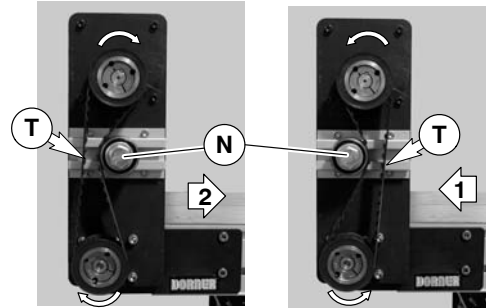

Figure 8
7. Depending on conveyor belt travel (direction 1 or 2), locate timing belt tensioner (N of Figure 8) as shown. Tension timing belt to obtain 1/8" (3 mm) deflection
3. Depending on conveyor belt travel (direction 1 or 2), locate timing belt tensioner (N of Figure 8) as shown. Tension timing belt to obtain 1/8" (3 mm) deflection for 6 lb (3 Kg) of force at timing belt mid-point (T). Tighten tensioner screw to 110 in-lb (12 Nm).
5. Depending on conveyor belt travel (direction 1 or 2), locate timing belt tensioner (N of Figure 8) as shown. Tension timing belt to obtain 1/8" (3 mm) deflection for 6 lb (3 Kg) of force at timing belt mid-point (T). Tighten tensioner screw to 110 in-lb (12 Nm).